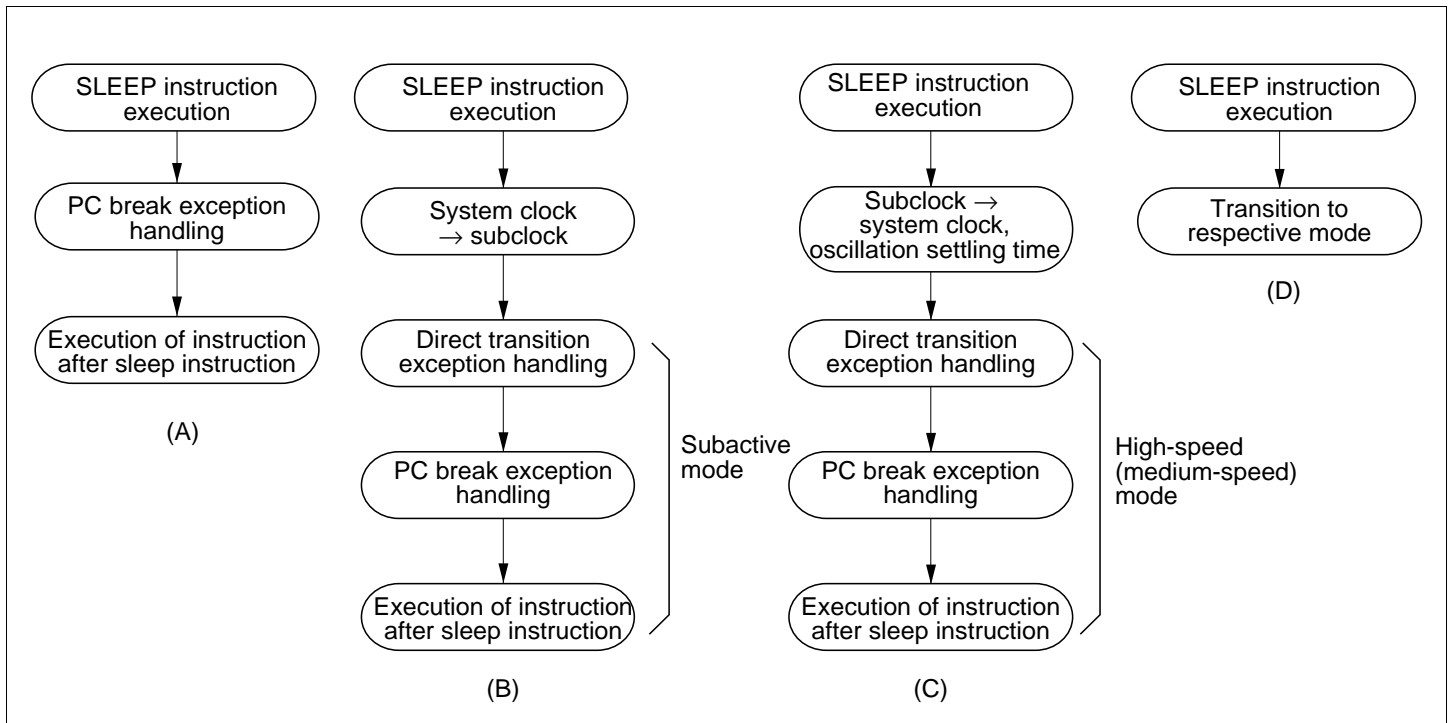

Figure 6.2 Operation in Power-Down Mode Transitions
- (1) When the SLEEP instruction causes a transition from high-speed (medium-speed) mode to sleep mode, or from subactive mode to subsleep mode:
After execution of the SLEEP instruction, a transition is not made to sleep mode or subsleep mode, and PC break interrupt handling is executed. After execution of PC break interrupt handling, the instruction at the address after the SLEEP instruction is executed (figure 6.2 (A)).
- (2) When the SLEEP instruction causes a transition from high-speed (medium-speed) mode to subactive mode:
After execution of the SLEEP instruction, a transition is made to subactive mode via direct transition exception handling. After the transition, PC break interrupt handling is executed, then the instruction at the address after the SLEEP instruction is executed (figure 6.2 (B)).
- (3) When the SLEEP instruction causes a transition from subactive mode to high-speed (medium-speed) mode:
After execution of the SLEEP instruction, and following the clock oscillation settling time, a transition is made to high-speed (medium-speed) mode via direct transition exception handling. After the transition, PC break interrupt handling is executed, then the instruction at the address after the SLEEP instruction is executed (figure 6.2 (C)).
(4) When the SLEEP instruction causes a transition to software standby mode or watch mode:
After execution of the SLEEP instruction, a transition is made to the respective mode, and PC break interrupt handling is not executed. However, the CMFA or CMFB flag is set (figure 6.2 (D)).